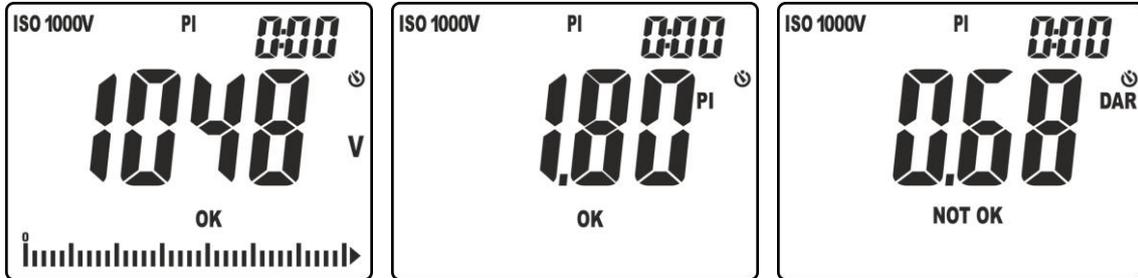

Fig. 24: Results of PI and DAR measurements
10. Press keys ▼/⚡ or ▲/ZERO to display the real applied voltage, the value of parameter PI or the value of parameter DAR (see Fig. 24).